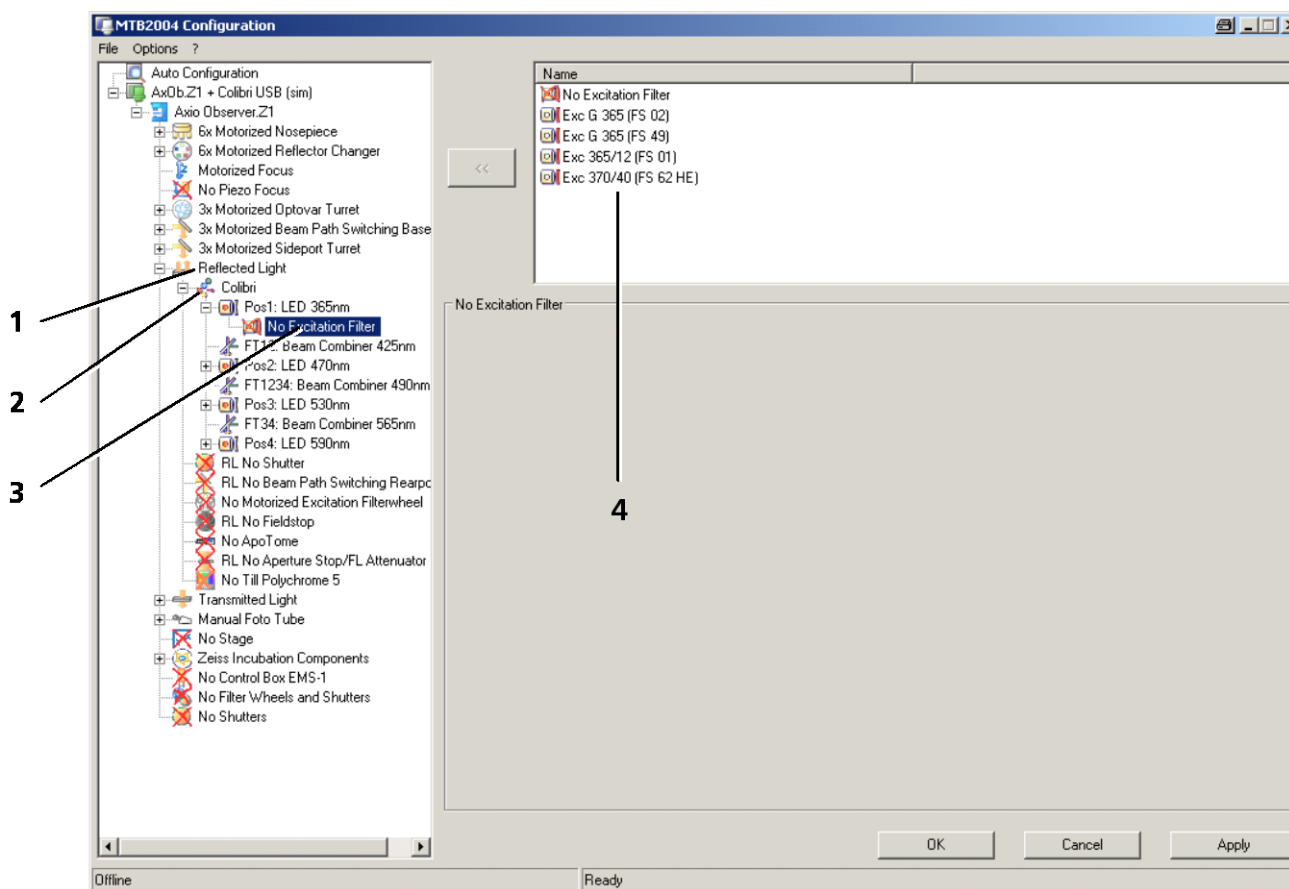

Fig. 6-1 Configuration via MTB2004
Like other fluorescence illuminators, the Colibri.2 illumination system is used in the reflected light path and appears, therefore, in the directory **Reflected Light** (Fig. 6-1/1).
- By clicking on the **Colibri** icon (Fig. 6-1/2) you get access to the subordinated selection list with various LED module and beam combiner positions.
- When clicking on the submenu item **(No) Excitation Filter** (Fig. 6-1/3), a selection list of excitation filters, which are suitable for being used in combination with the respective LED module, will appear in the right field (Fig. 6-1/4). The filter actually used can be selected by a double click.